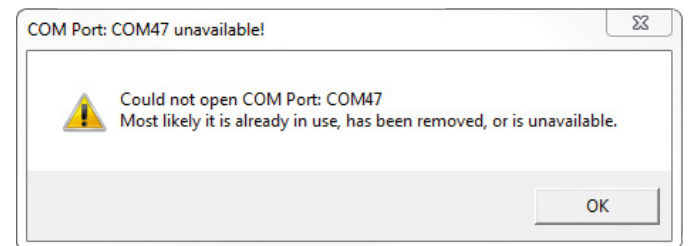
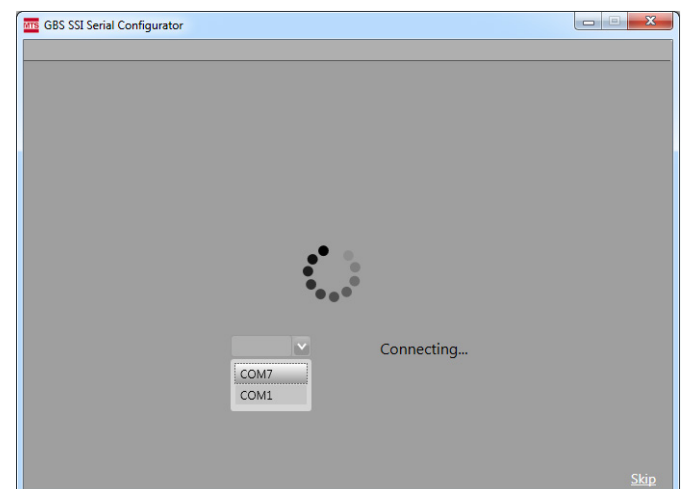
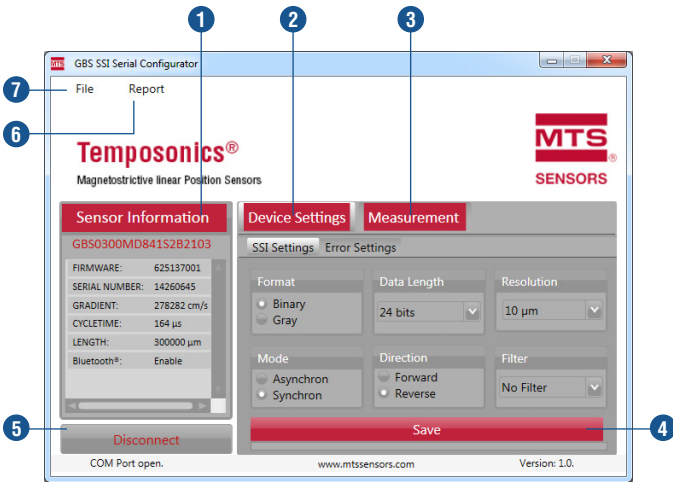

Fig. 27: Error message COM Port is not available
Fig. 28: Select COM Port
Fig. 29: User interface GB Serial Configurator
After starting the program GBS SSI Serial Configurator the software connects to the last selected COM Port and the user interface opens (Fig. 29). If the COM Port is not available an error message appears (Fig. 27).
Select the right COM Port from the list (example see Fig. 28). The application will automatically restart and the user interface opens (Fig. 29).
- 7 The **File** menu allows the following settings (see also Fig. 29):
### SSI Settings (Fig. 29)